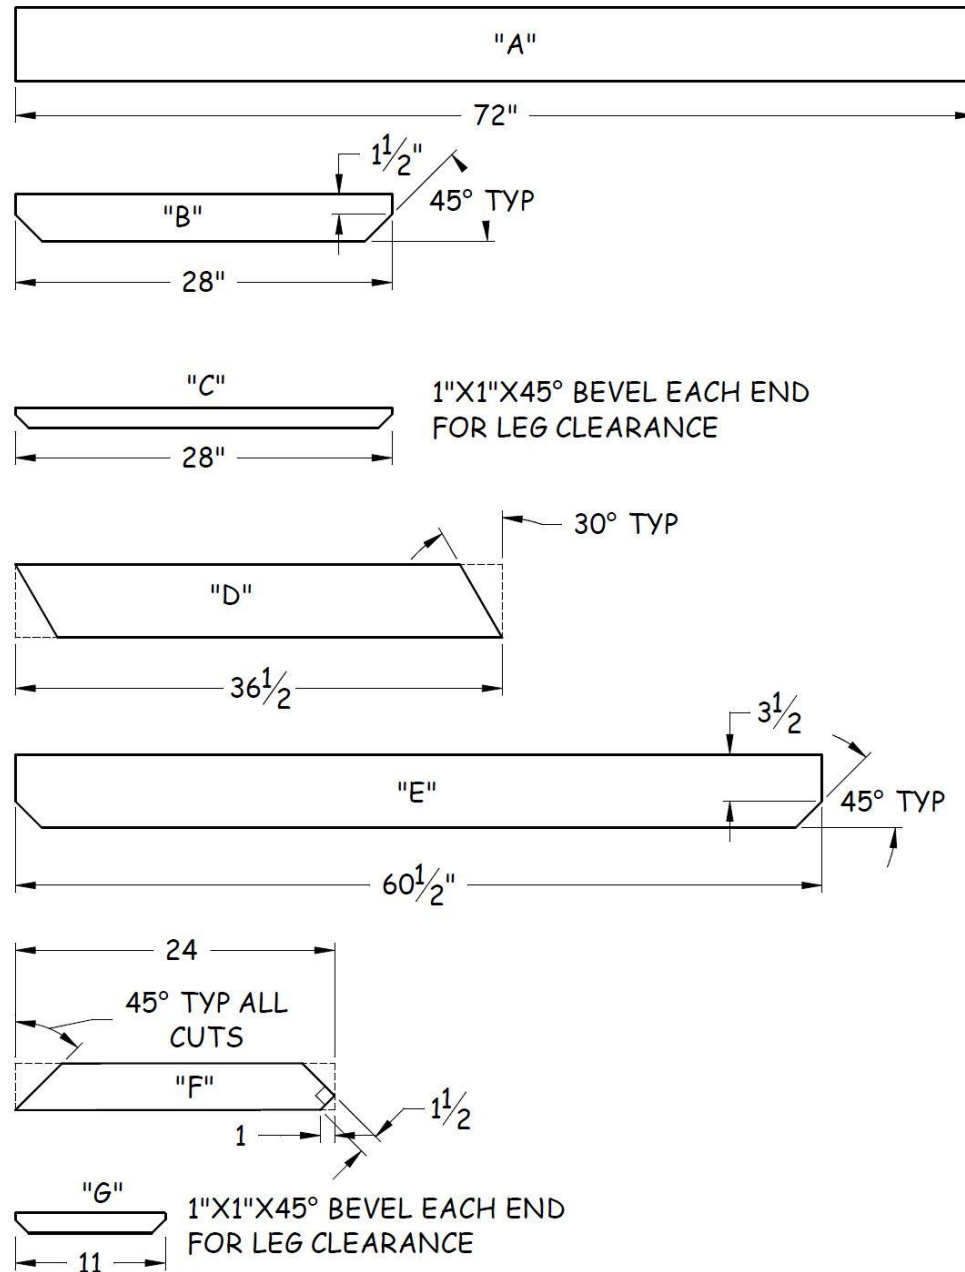

Figure 24-1. Picnic Table Cut Sheet.
1. Cut all pieces required per the cut sheet dimensions (see Figure 24-1).